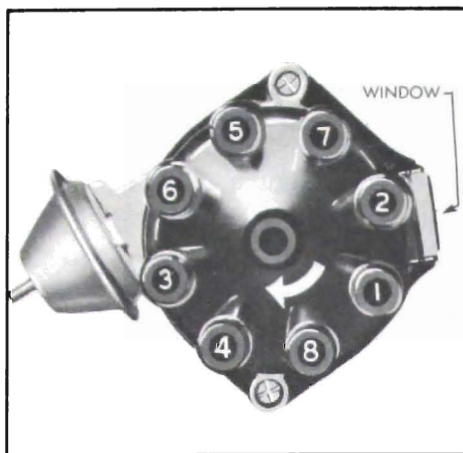

Figure 10-46—Installing Spark Plug Wires in Cap-300 Engine
5. Install distributor cap. Make sure that spark plug wires are correctly installed in distributor cap, through clips on rocker arm covers, and on spark plugs. See Figure 10-46 or 10-47.
in the distributor cap terminal just forward of the vacuum advance unit. The other wires are then installed in a clockwise direction according to the firing order. See Figure 10-46 or 10-47.